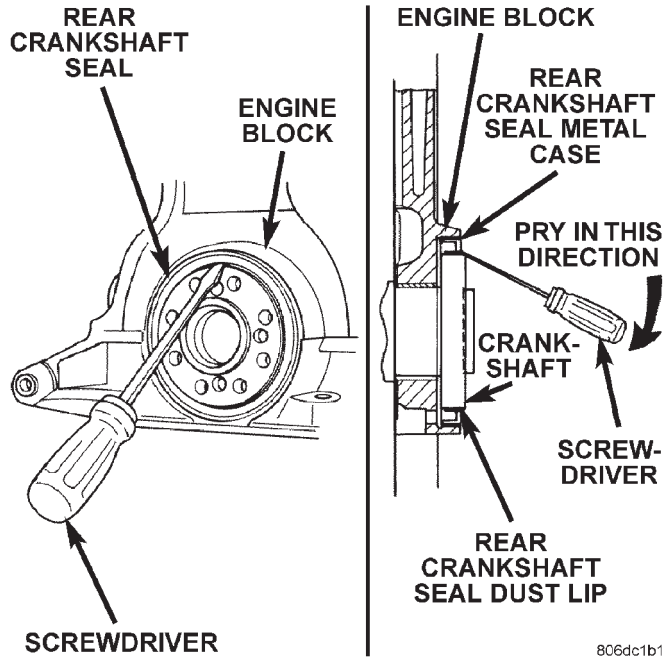

Fig. 83 Rear Crankshaft Oil Seal Removal—Typical
(3) Insert a 3/16" wide flat bladed screwdriver between the dust lip and the metal case of the crankshaft seal. Angle the screwdriver (Fig. 83) through the dust lip against the metal case of the seal. Pry out seal.